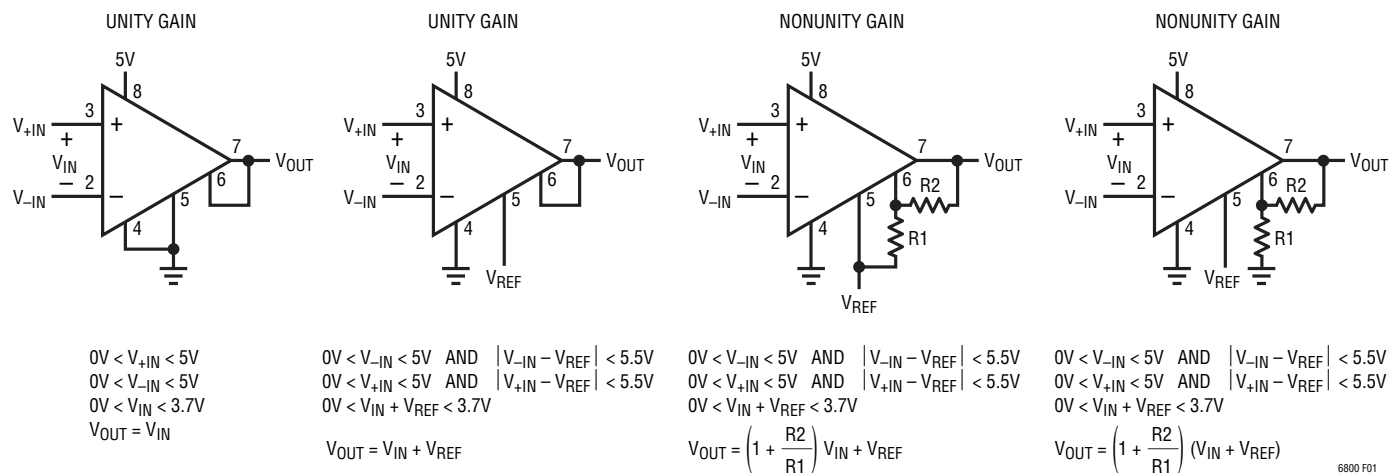

Figure 1
**RG (Pin 6):** Inverting Input of Internal Op Amp. See Figure 1.
**OUT (Pin 7):** Amplifier Output. See Figure 1.
|     |      | Replaced Figure 1   | 9           |